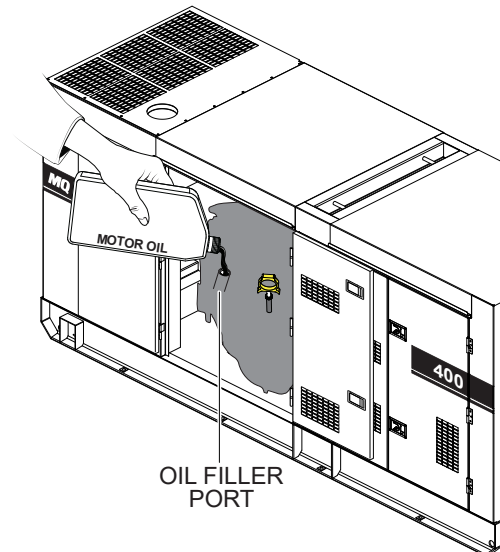

**Figure 35. Engine Oil Dipstick Level**
3. Reinsert the dipstick, then remove the dipstick from its holder. Check the oil level shown on the dipstick (Figure 35).